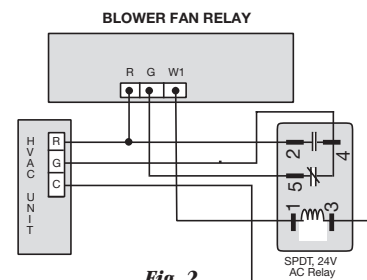

Fig. 2
When W1 is energized from the DIGICOM, ModCC or RMOD, the fan circuit (G) is not energized. For applications requiring the blower to be cycled on a W1 heat output, a field supplied, 24-volt coil SPDT relay must be used. The W1 output signal is connected to the heating device input terminal and the coil of the fan relay. This is required for electric heat and gas furnaces with no fan control. (See Fig. 2)